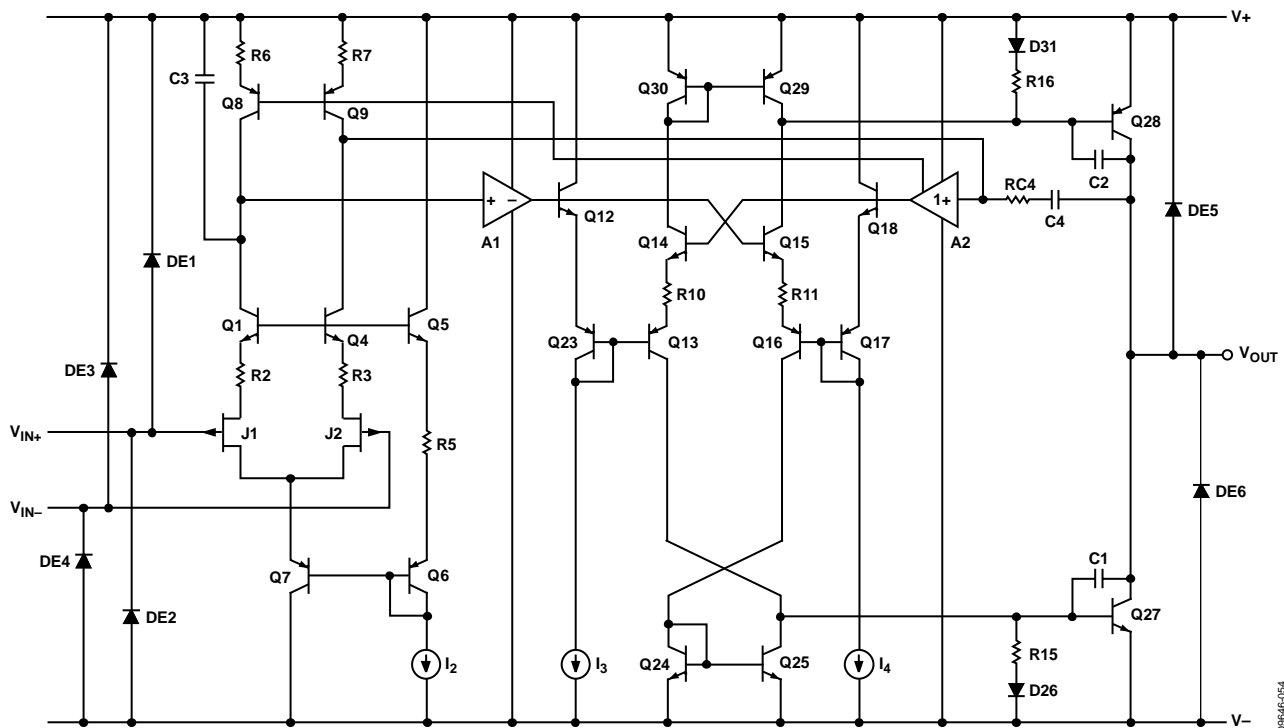

Figure 56. Simplified Schematic
The ADA4610-1/ADA4610-2/ADA4610-4 are manufactured using the Analog Devices, Inc. *iPolar*® process, a 36 V dielectrically isolated (DI) process with P-channel JFET technology. The unique architecture of the ADA4610-1/ADA4610-2/ADA4610-4 makes it possible to combine high precision and high speed characteristics into a high voltage, low power op amp. A simplified schematic for the ADA4610-1/ADA4610-2/ADA4610-4 is shown in Figure 56. The JFET input stage architecture offers advantages of low input bias current, high bandwidth, high gain, low noise, and no phase reversal when the applied input signal exceeds the common-mode voltage range. The output stage is rail to rail with high drive characteristics and low dropout voltage for both sinking and sourcing currents.